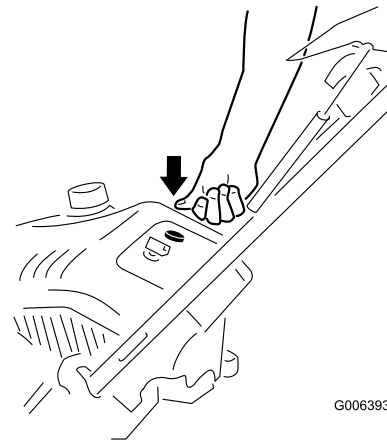

Figure 14
3. Firmly push in the primer 3 times with your thumb, holding the primer in for a second before releasing it each time (Figure 14).